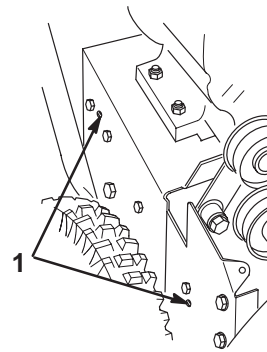

Figure 34
18. Install the two screws that secure the auger brake arm assembly. Ensure that the tabs fit into the holes in the left side of the snowthrower (Fig. 34).
14. Install the two screws that secure the auger brake arm assembly. Ensure that the tabs fit into the holes in the right side of the snowthrower (Fig. 34).